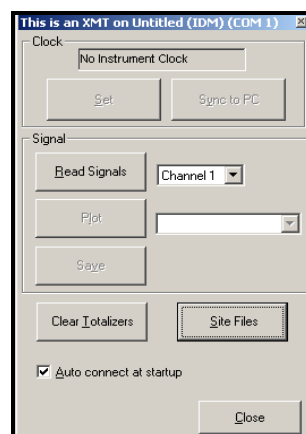

Figure 5-4: *Properties* Window
3. The *Properties* window appears similar to Figure 5-4 below. To clear the XMT868i totalizers, click on the [Clear Totalizers] button. The XMT868i totalizers are reset to 0.